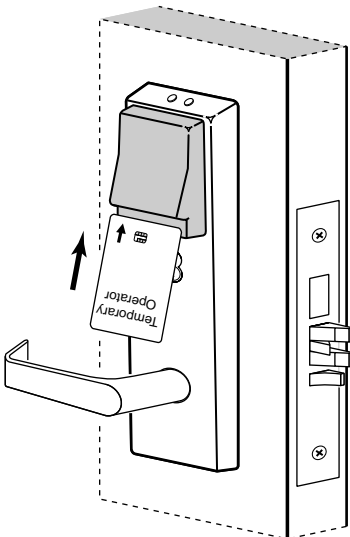

Figure 19b Using the temporary operator card with a smart card reader
- 1 With the writing facing towards you, insert and remove the temporary operator card, as shown in Figure 19b.